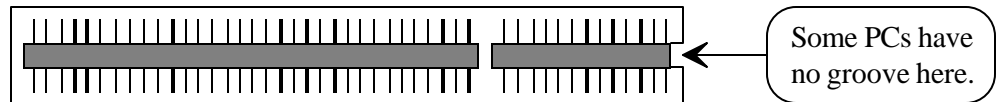

Figure 2.1 A PCI connector facilitating 64-bits boards
**Note!** Some PCs do not comply with the PCI specification and come with PCI connectors where the groove to facilitate 64-bits boards, like the PBT-515, is missing. The groove is shown in Figure 2.1. If the groove is missing, it is possible to make one by melting the plastic on the connector with a soldering iron, or by cutting with a sharp knife. Make sure the power is off on the PC before the operation.